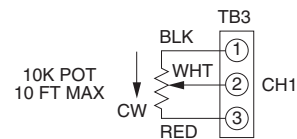
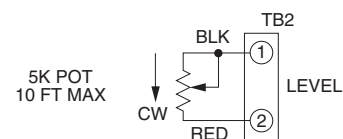

**Figure 5**
**Figure 6**
- ❑ 3. Bring the external potentiometer wires through the conduit entrance hole and wire the potentiometers to the appropriate terminals blocks as shown in (Figure 5) CBC-200-2, (Figure 6) CBC-200-1, or (Figure 7) CBC-200-3.
- ❑ 1. Wire the external current limit potentiometer to Terminal Block TB-3 for Channel 1 as shown in the diagram. (See Figure 6)
- 1. Wire the external level adjust potentiometer on Terminal Block TB-2 as shown in the diagram. (See Figure 5)
- 1. Wire the external current limit potentiometer to Terminal Block TB-3 for Channel 1 as shown in the diagram. (See Figure 6)